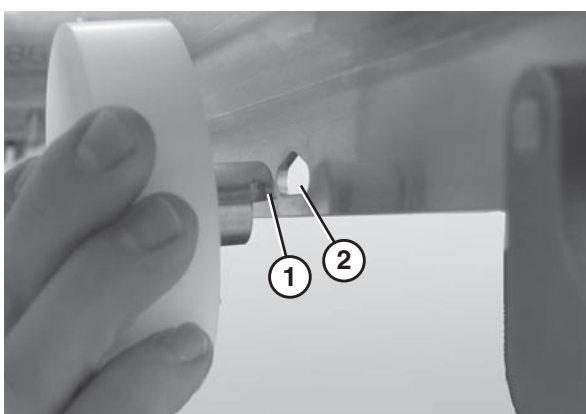

Figure 8
1. Insert the notched end of the return shaft (Figure 8, item 1) through the small hole (Figure 8, item 2) in the inside of the conveyor frame.